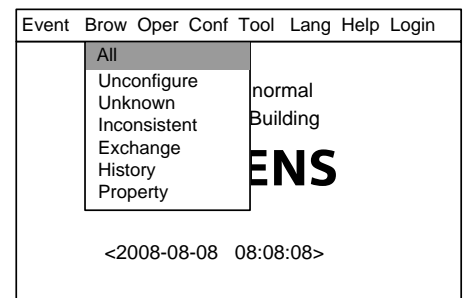
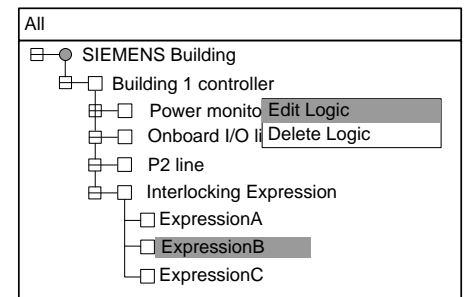
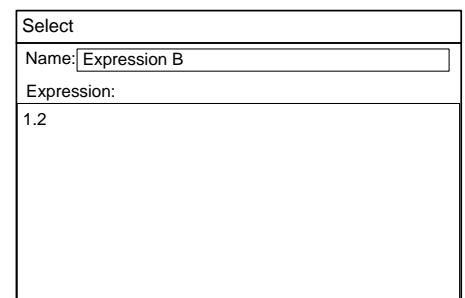

Fig.25-2
Fig.25-3
Fig.25-4
2. Press "→" to select "Browse" submenu (Fig. 25-2). Select "All" and then press "OK". Now the tree diagram will be displayed in the window (Fig.25-3). Press "↓"/"↑" to find out the expression to be modified.
3. Press "→" to pop out the shortcut menu (Fig.25-3). Use "↓" to select "Edit Logic" and press "OK" to enter the logic interface (Fig.25-4). Then users can edit the selected expression.